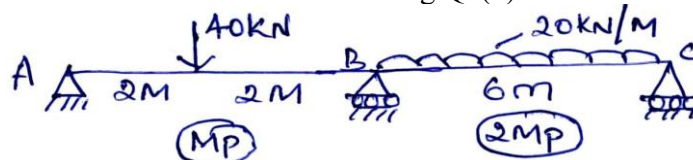

Fig.Q2(b)
- b. Calculate 'M_p' for the continuous beam shown in Fig.Q2(b). Take load factor 1.5.